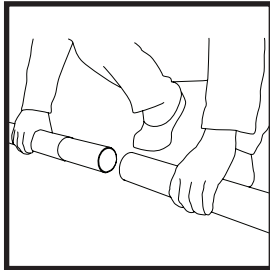

Fig. 9
15. Put the pole together by sliding one element into the other (Fig. 9).